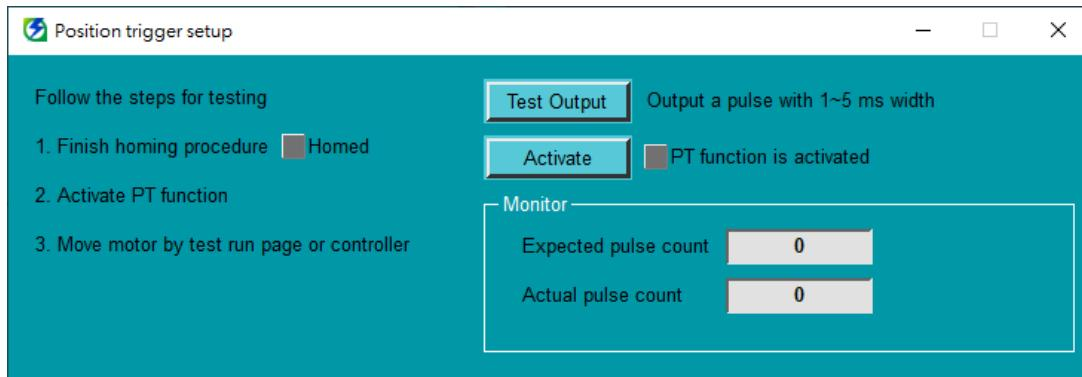

Figure 9.9.4.1
1. Perform the test according to the instructions on the left side of figure 9.9.4.1.